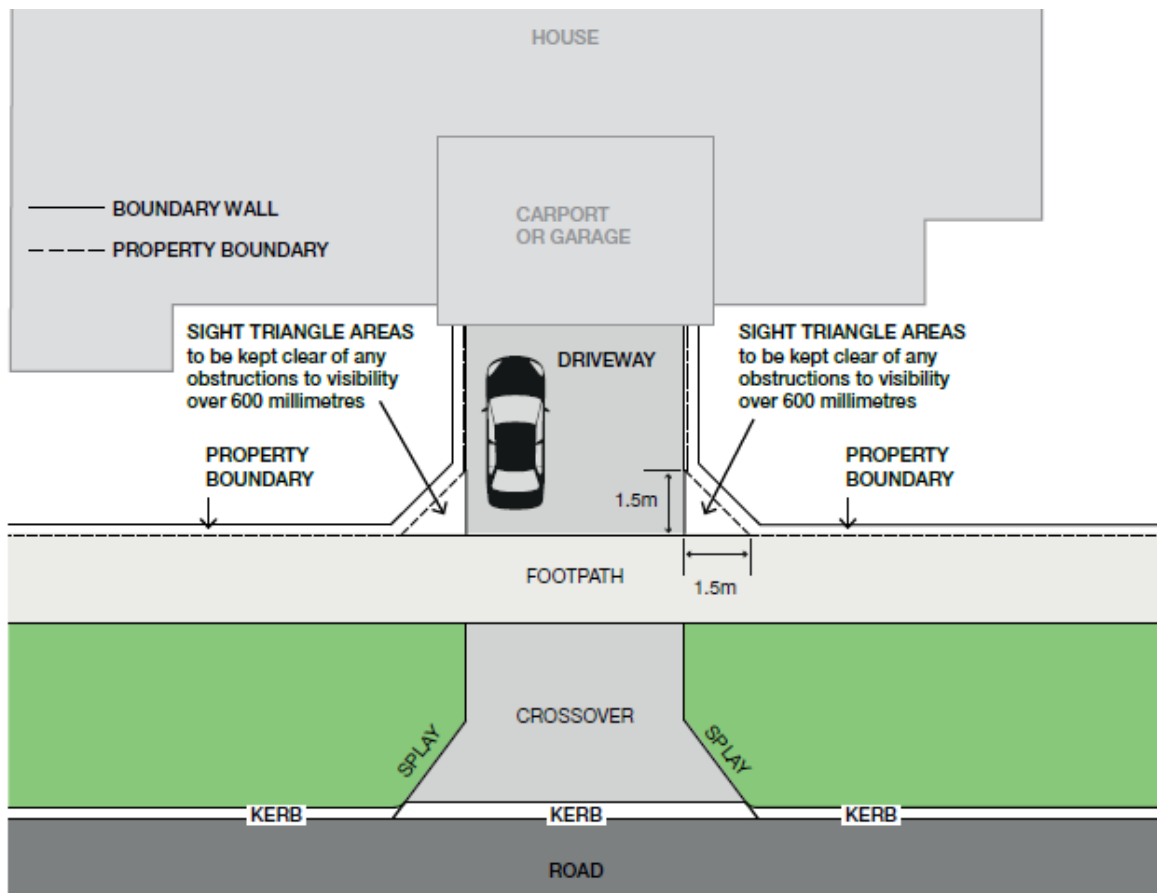

Figure 2: Sight triangle at the intersection of the crossover and footpath
- Crossovers are to be positioned such that sight lines between path users and vehicles are unobstructed by permanent fixtures (fences, trees, etc). A sight triangle of 1.5m by 1.5m at the property boundary is required to be constructed and all fixtures are to be truncated or reduced to no higher than 600mm as shown in Figure 2.